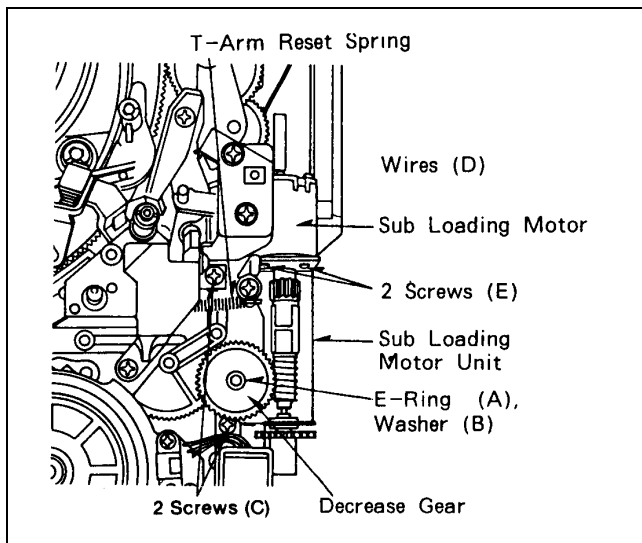

Figure 7-21-1 Sub Loading Motor Removal
3. Remove E-Ring (A), Washer (B), Decrease Gear and 2 screws (C) then remove Sub Loading Motor Unit as shown in figure 7-21-1.
4. Unsolder 2 lead wires (D) as shown in figure 7-21-1.
5. Unscrew 2 screws (E), then remove Sub Loading Motor as shown in figure 7-21-1.